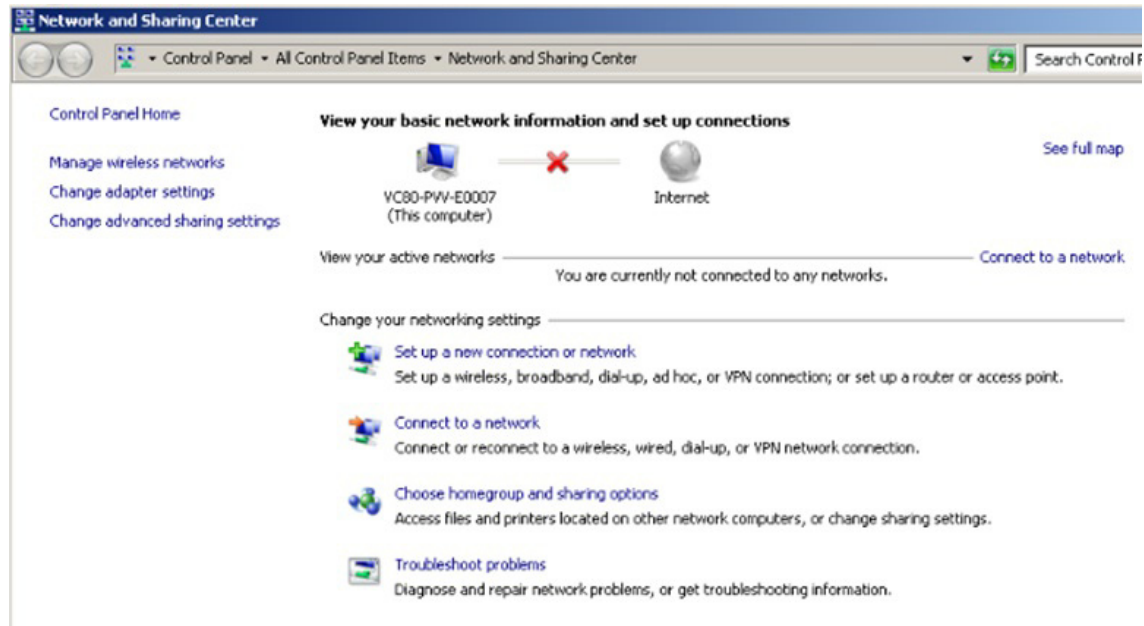

**Figure 1-5** *WLAN Connection*
2. Select **Open Network and Sharing Center** (see Figure 1-5).